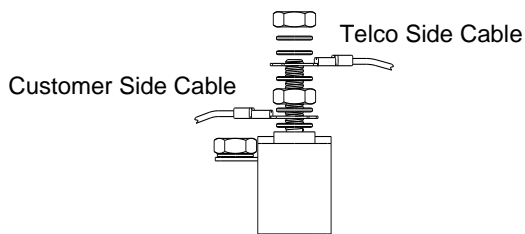

Figure 3
2. Terminate one end of the grounding conductor (No. 6 AWG) on the ground stud / binding post and the other end to an appropriate ground source (See Figure 3).
3. Terminate the Telco Side cable in between the bottom set of washer and bottom nut of the appropriate stud (one conductor to Tip and one to Ring) and tighten down (See Figure 3).
4. Terminate the Customer Side cable under the top set of washers and the top nut of the appropriate stud (one conductor to Tip and one to Ring) and tighten down. (See Figure 3).